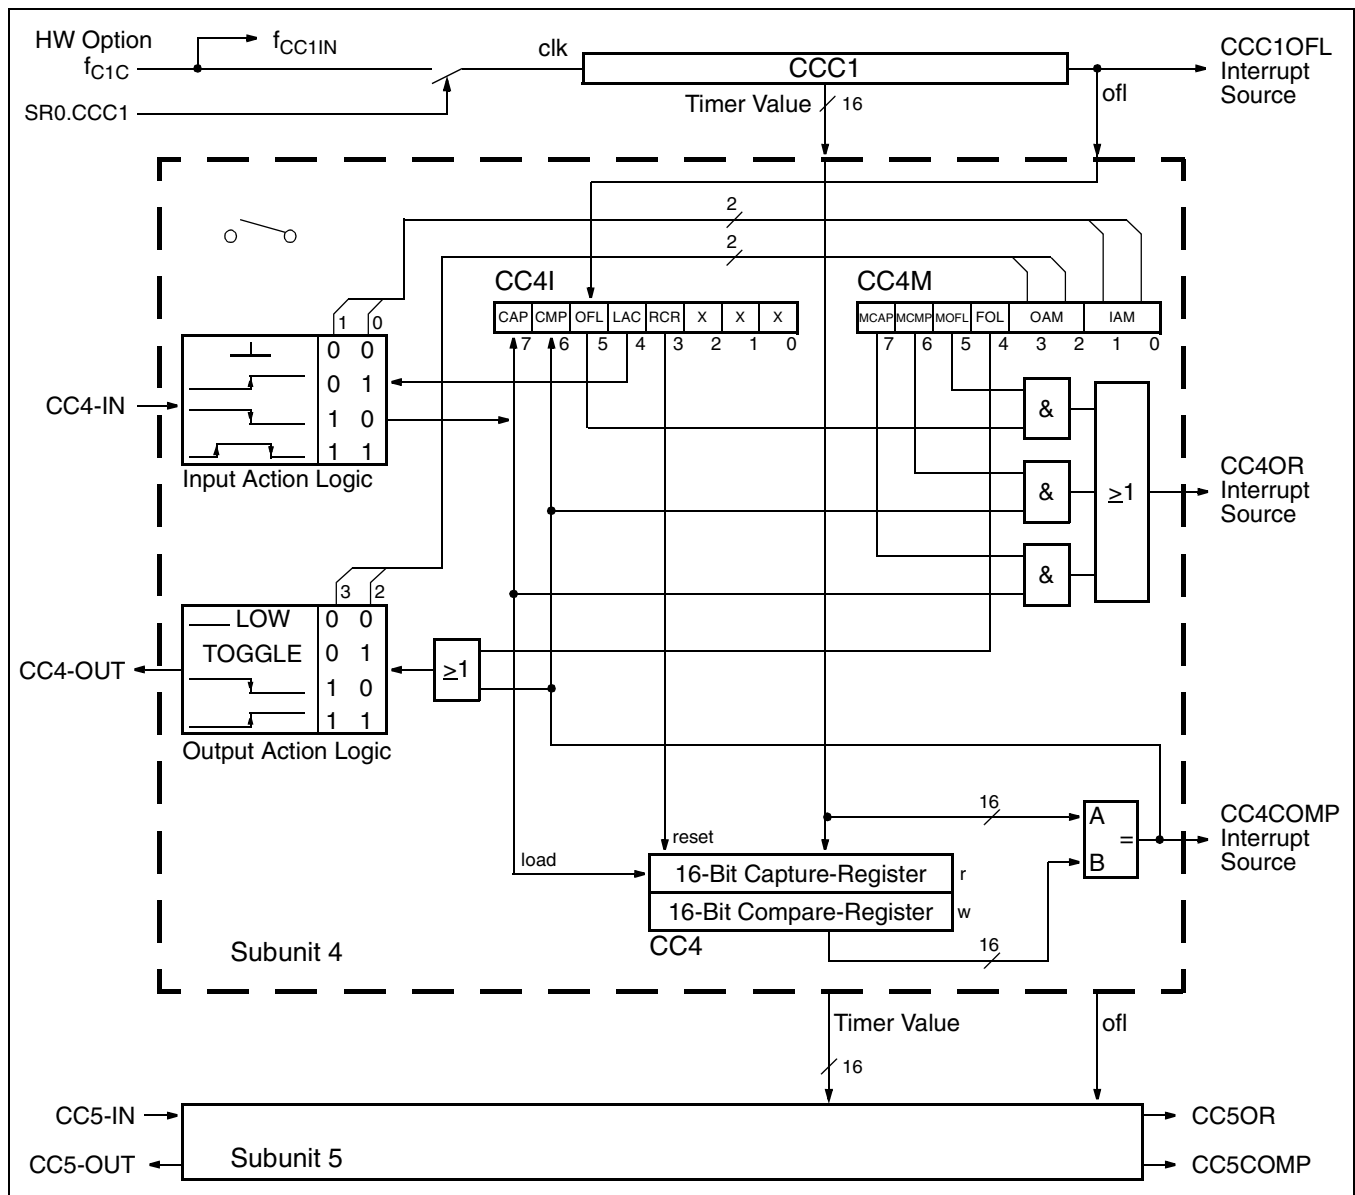

Fig. 17–1: CAPCOM Module 1 Block Diagram
The Capture Compare Module (CAPCOM, Fig. 17–1, 17–2) contains one common free running 16bit counter (CCC) and a number of capture and compare subunits (SU). More details are given in Tables 17–1 and 17–2. The timer value can be read by SW from 16bit register CCC. The CCC provides an interrupt on overflow.